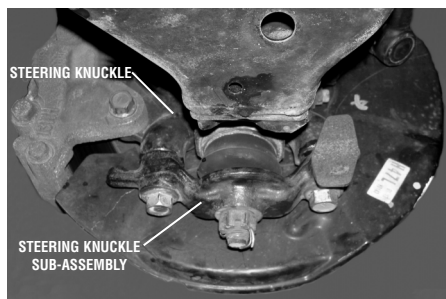

Figure 1
4. Remove two bolts from the bottom of the steering knuckle and separate the sub-assembly from the bottom of the steering knuckle (See Figure 1).